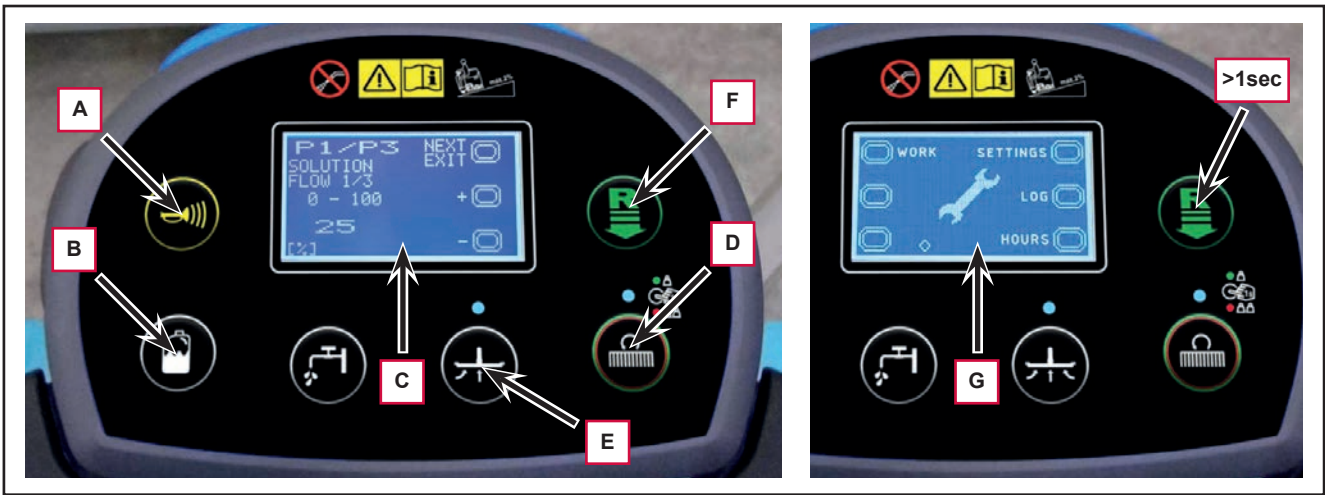

Figure 6
- 1. Turn the ignition key to “I” holding down both the horn button (A, Figure 6) together with the adjustment percentage detergent button (B) to going at the function parameters screen (C).
- 2. Press the reverse button (F) until you reach the BAT parameter.